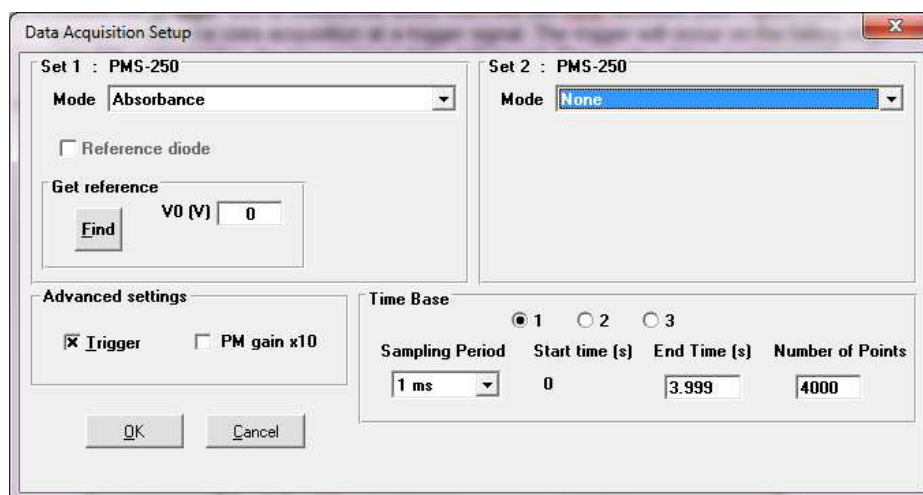

Figure 102 : Data acquisition setup window
- The data acquisition window in absorbance mode is presented in Figure 102.
- Check the **Trigger** box to control the shots from the Bio-Kine software (see Figure 102). This is used to start the data acquisition at a trigger signal. The trigger will occur on the falling edge of a TTL pulse sent to the trigger input of the A/D board. This mode will be used to synchronize the data acquisition with experiments.